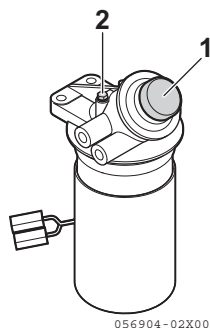

Figure 4
3. Loosen the air bleed screw (**Figure 4, (2)**) two to three turns.
4. Push up and down on the priming pump (**Figure 4, (1)**) to release air out of the air bleed screw.